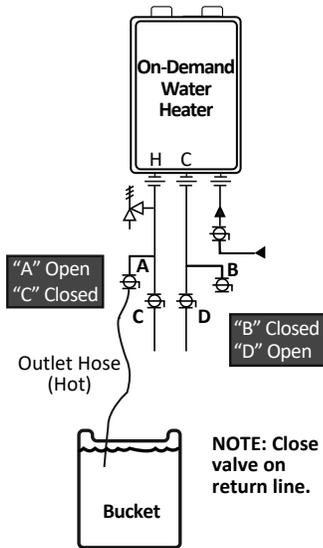

Figure 2: Water flow test.
1. Test whether the problem is within the unit or external to the unit (i.e., in the plumbing system) by attempting to run hot water locally through the isolation valve (if installed). Ensure that the hot water shutoff is closed on the hot and return lines while running water through the pressure relief valve or hot isolation valve drain port. See Figure 2 on page 8.